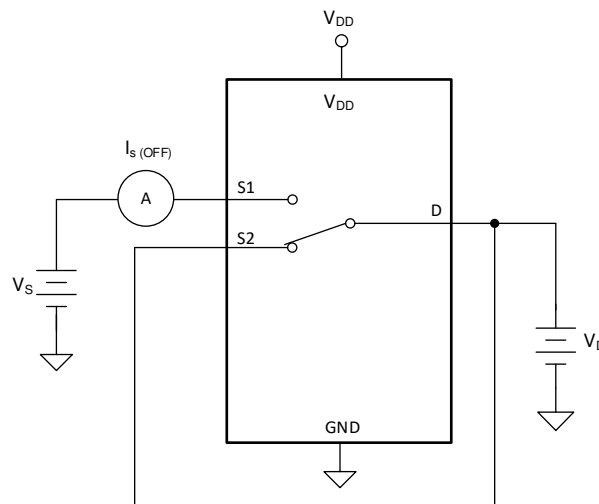

**Figure 7. On-Resistance Measurement Setup**
The on-resistance of a device is the ohmic resistance between the source (Sx) and drain (D) pins of the device. The on-resistance varies with input voltage and supply voltage. The symbol  $R_{ON}$  is used to denote on-resistance. The measurement setup used to measure  $R_{ON}$  is shown in Figure 7. Voltage (V) and current ( $I_{SD}$ ) are measured using this setup, and  $R_{ON}$  is computed with  $R_{ON} = V / I_{SD}$ :